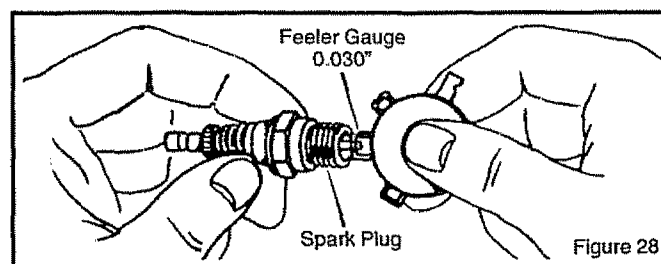

Figure 28
1. Check the gap of the **spark plug** with a **feeler gauge** (Figure 28). The correct gap is 0.030".